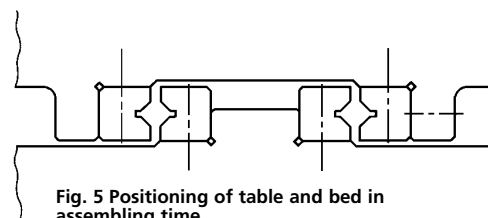

Fig. 5 Positioning of table and bed in assembling time
5. Assembling of table and bed (Fig.5)